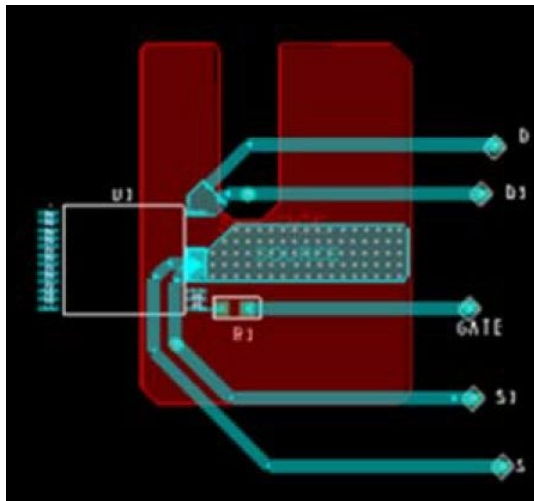

Figure 22. Thermal Resistance Test Conditions for PowiGaN Devices (LYT6079C and LYT6070C.)
Testing performed on custom thermal test PCB as shown in Figure 22. The test board consists of 2 layers of 2 oz. Cu with the InSOP package mounted to the top surface and connected to a bottom layer Cu heat sinking area of 550 mm².
- Please see Figure 22.